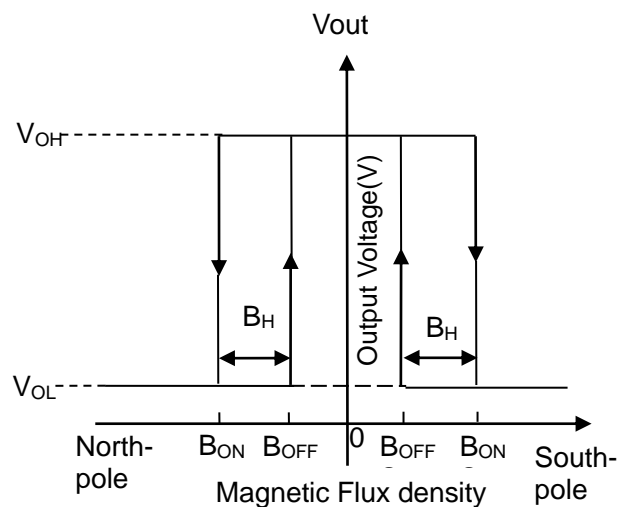

Fig.10 Magnetic operating characteristics (South/North-pole detection type: TCS30DPU)
- ③ South-pole and North-pole, dual detection type (Fig.10 shows the magnetic operating characteristics)